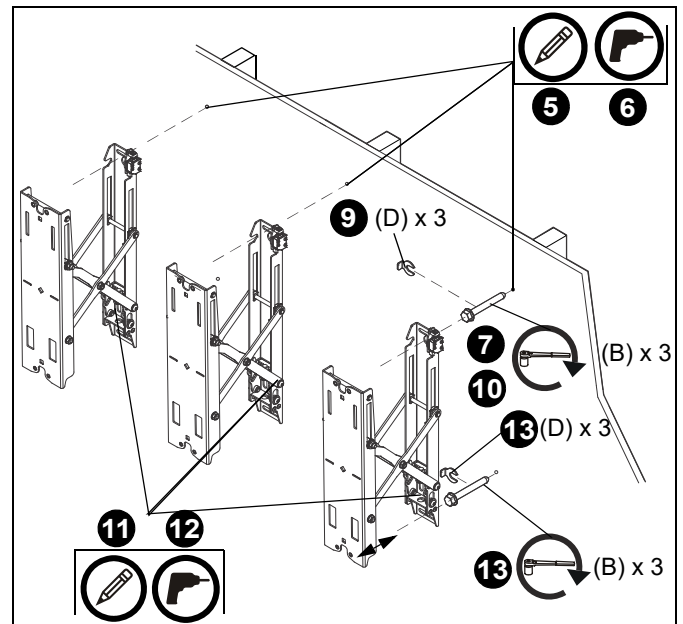

Figure 2
5. Using a level, mark the wall on the three studs to attach the accessory through the upper mounting slots. (See Figure 2)
7. Partially install three 5/16 x 2-1/2" flanged lag bolts (B) into pilot holes but do not tighten to wall.
8. Hang three Fusion pullouts (A), aligning upper mounting slots over lag bolts and adjust side-to-side for proper location.
9. Place one slotted washer (D) over each flanged lag bolt. (See Figure 2)
10. Tighten lag bolts to secure accessory (A) to wall at upper mounting slots.
11. Mark the attachment points for the lower mounting slots, making sure the attachment points are located on the studs. (See Figure 2)
12. Drill 7/32" (5.5mm) pilot holes at markings for lower mounting holes. (See Figure 2)
13. Use three 5/16 x 2-1/2" flanged lag bolts (B) and three 5/16" slotted washers (D) to attach three pullouts (A) to the wall through the lower mounting holes. (See Figure 2)